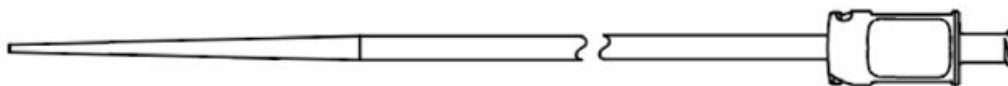

Figure 2: Introducer
- one introducer (Fig 2) with hydrophilic coating that is used to facilitate entry and trackability of the sheath into the vessel.